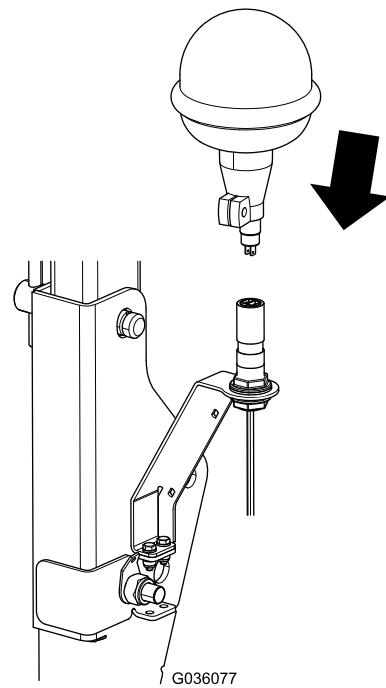

Figure 12
5. Assemble the beacon onto the top of the beacon stand (Figure 12).